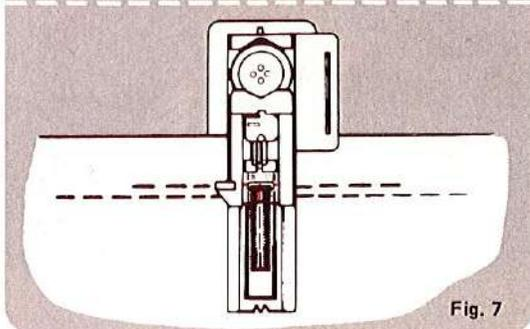

Fig. 7
8. Run machine at a moderate speed and let it stitch the entire buttonhole. Stop machine when stitching starts to overlap the starting bar-tack (See Fig. 7). With needle above fabric, move stitch width dial to 0 setting and take one or two fastening stitches.
6. Start machine and let it complete step 2 (second leg) of the buttonhole cycle. Stop sewing when stitching reaches starting bar tack. (See Fig. 7) With needle above fabric, move stitch width dial to 0 position and take one or two fastening stitches.